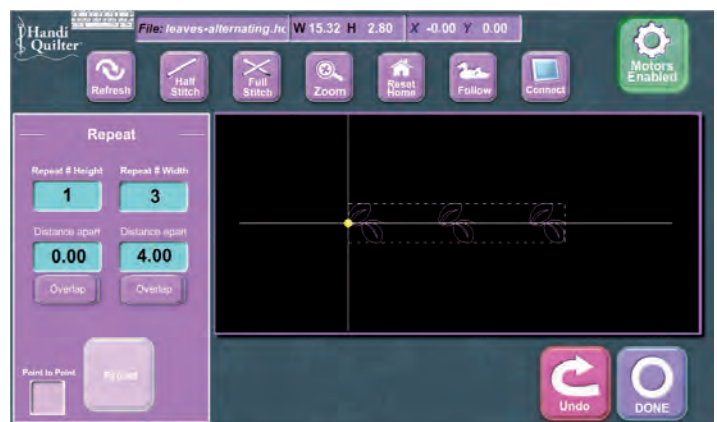

Figure 24
2. If a gap is desired between each pattern or each row of patterns, enter a value in the “Distance Apart” boxes (in inches) (Figure 24).